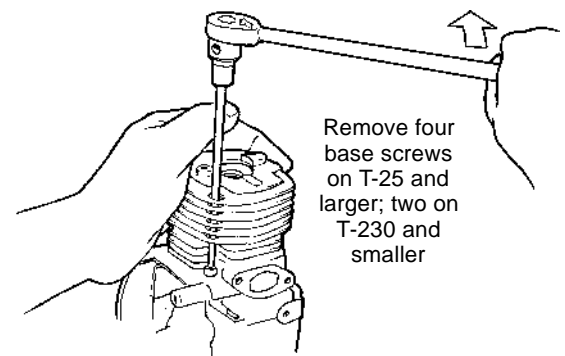

Figure 7.2 Removing cylinder base screws.
STEP 3. Remove the cylinder base screws (Figure 7.2), then carefully pull the cylinder from the piston and crankcase assembly.